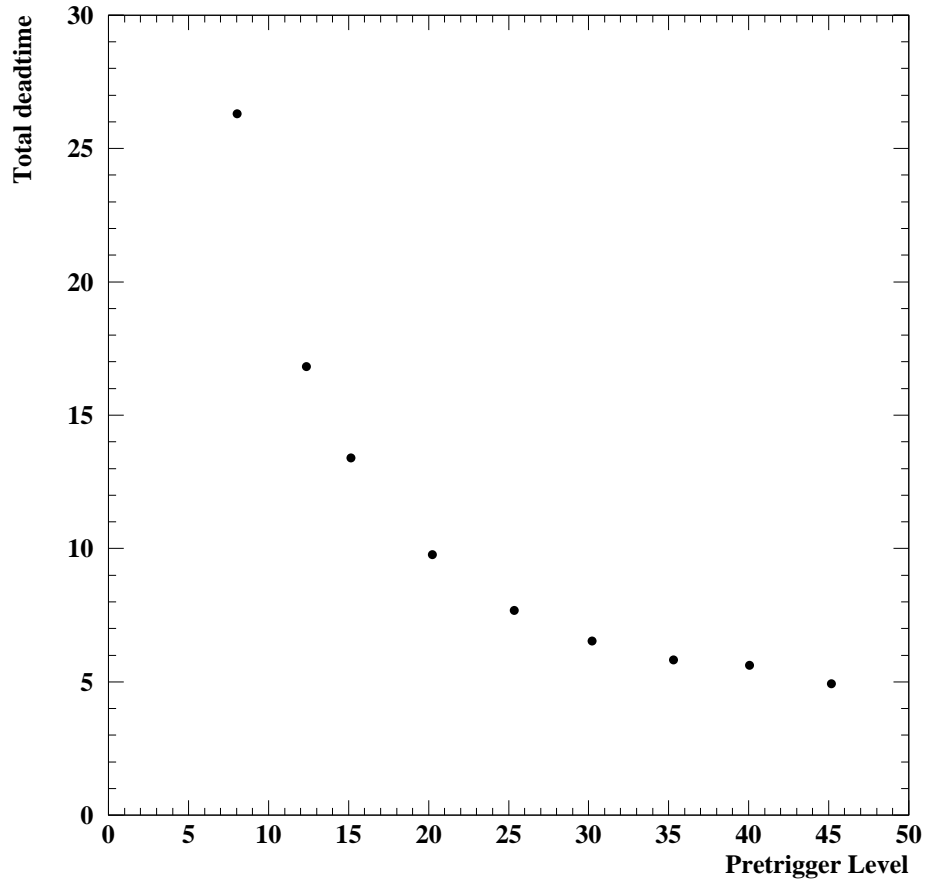

Figure 3: Deadtime in percent due to pretriggering as a function of the pretrigger level. The DAQ readout deadtime is fixed at 4.5% here.
- Entry 1 Pretrigger level: The level where the card starts looking for triggers. Needs to be lower than the lowest trigger level (one count difference is enough). The value of this determines the pretrigger condition. Figure 3 has the deadtime incurred by the DAQ from pre-triggering only (with a fixed 4.5% readout deadtime) as a function of pretrigger level.